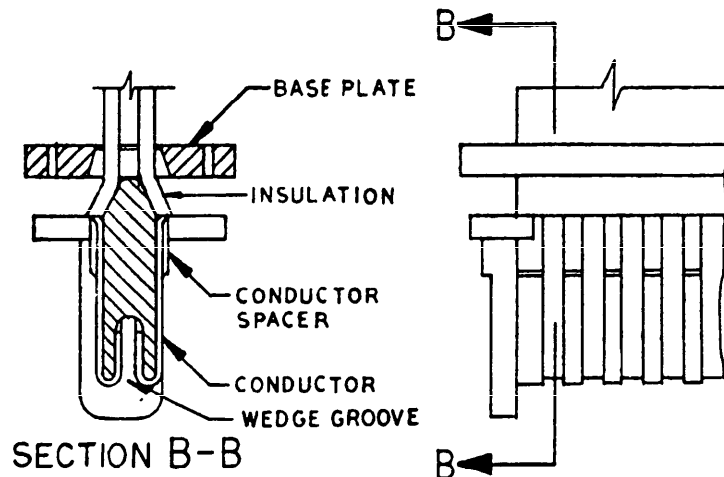

FIGURE 3. Conductor forming.
- C. Using a tool to hold the bare conductors in the respective slots, bend conductors of one cable at right angle and then into the wedge groove. See Figure 3 (Conductor Forming). Repeat bending operations for conductors of other cable.